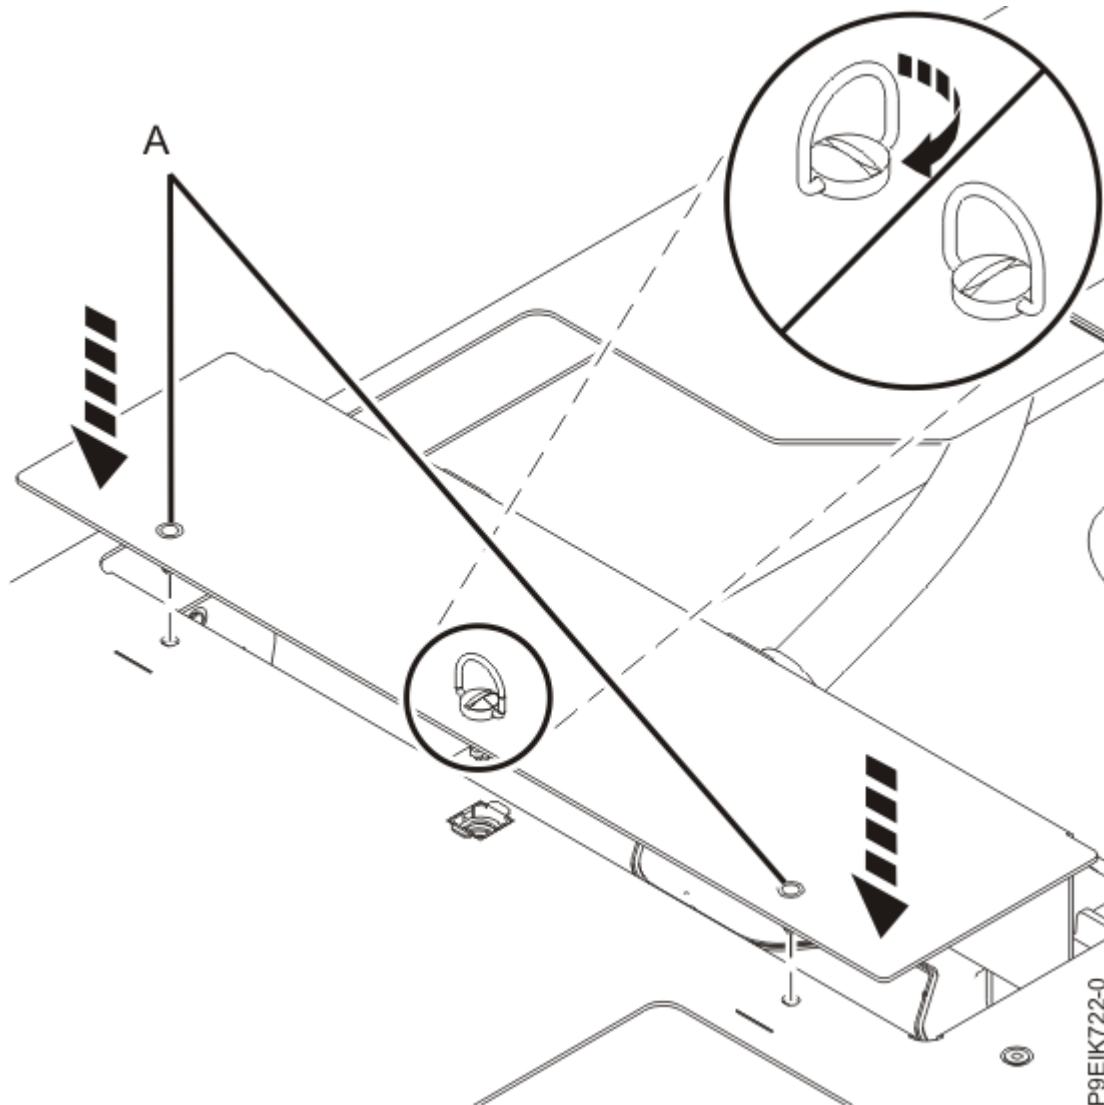

Figure 43. Placing the GPU holder back onto the carrier
12. Fasten each GPU cold plate holder to the cold plate installation carrier as shown in Figure 43 on page 45. Use the alignment pins **(A)** and tighten the screw **(B)** to secure the holder to the carrier.